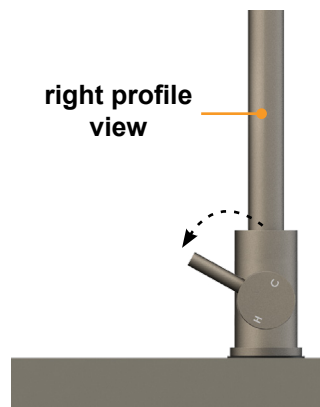
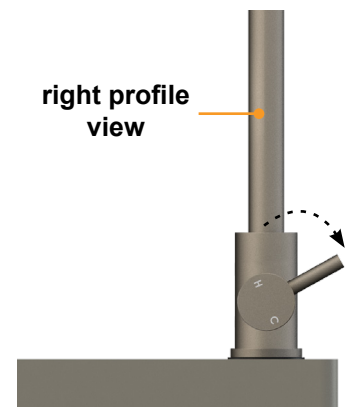

Fig.14
Fig.15
2. Move the lever towards you for hot water (**Fig.14**) and away from you for cold water (**Fig.15**).